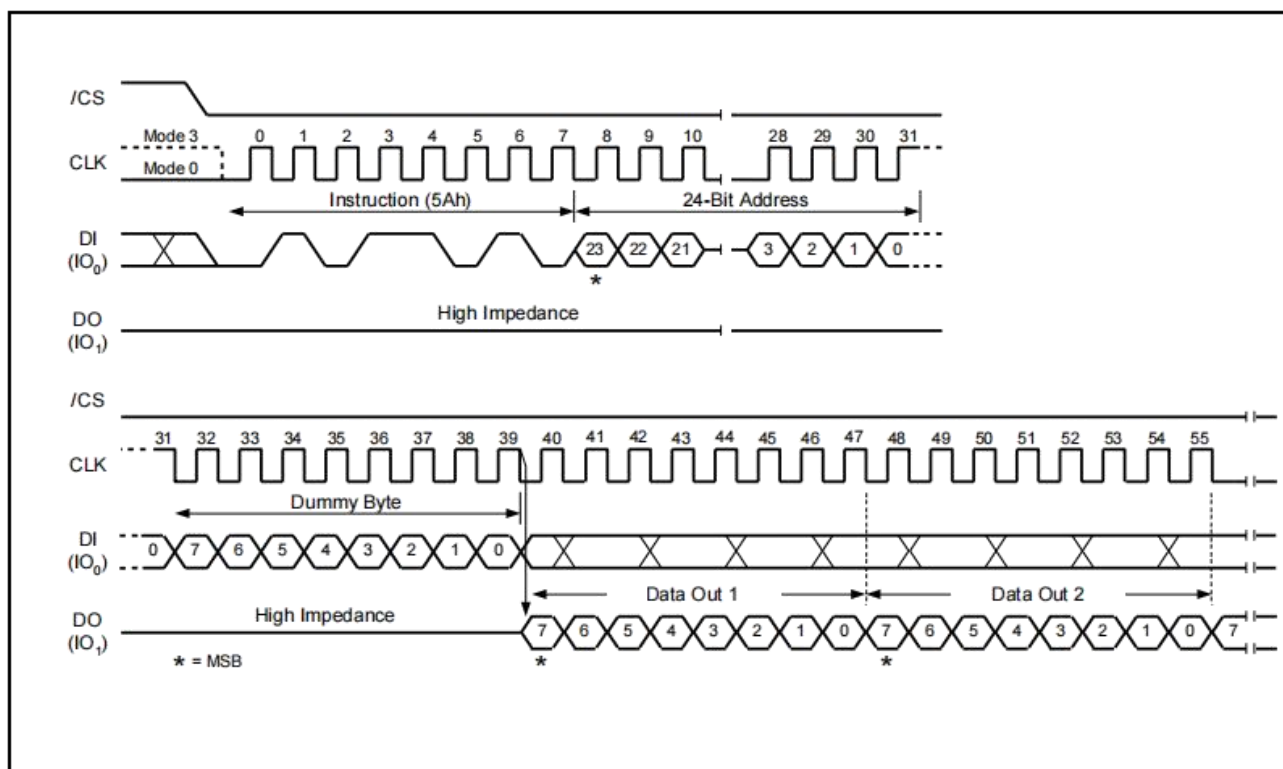

Figure 30. Read SFDP Register Instruction Sequence Diagram
The Read SFDP Register instruction is compatible with the SFDP standard initially established in 2010 for PC and other applications, as well as the JEDEC standard JESD216-serials that is published in 2011. Most Chuangfeixin SPI Flash Memories shipped after June 2011 (date code 1124 and beyond) support the SFDP feature as specified in the applicable datasheet. The Read SFDP instruction is initiated by driving the /CS pin low and shifting the instruction code “5Ah” followed by a 24-bit address (A23-A0)(1) into the DI pin. Eight “dummy” clocks are also required before the SFDP register contents are shifted out on the falling edge of the 40th CLK with most significant bit (MSB) first as shown in Figure 30. For SFDP register values and descriptions.